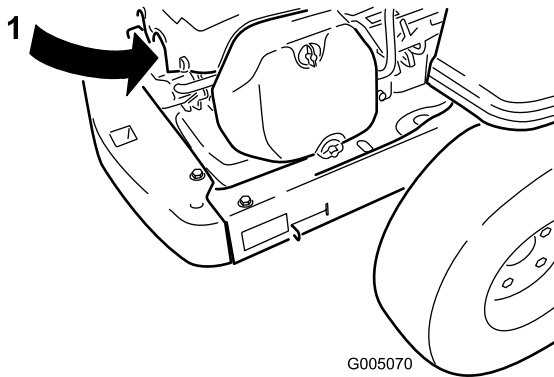

Figure 27
2. Pull the wire off of the spark plug (Figure 27). Clean around the spark plug to prevent dirt from falling into the engine and potentially causing damage.
3. Push the wire onto the spark plug (Figure 27).